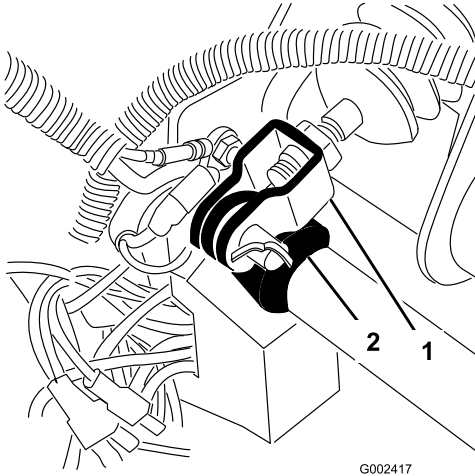

Figure 56
1. Remove the cotter pin and clevis pin securing the master cylinder yoke to the brake pedal pivot (Figure 56).
3. Loosen the jam nuts securing the yoke to the master cylinder shaft (Figure 56).